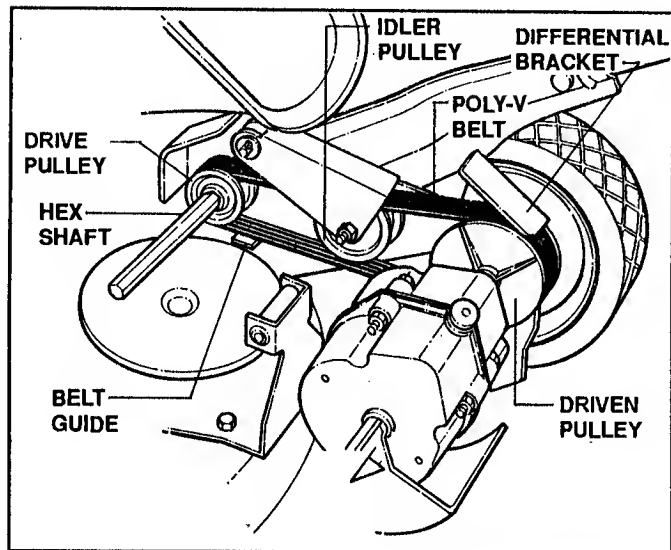

FIGURE 3.23
2. Note the routing of the old belt around the three pulleys before cutting and removing it. See Figure 3.23.